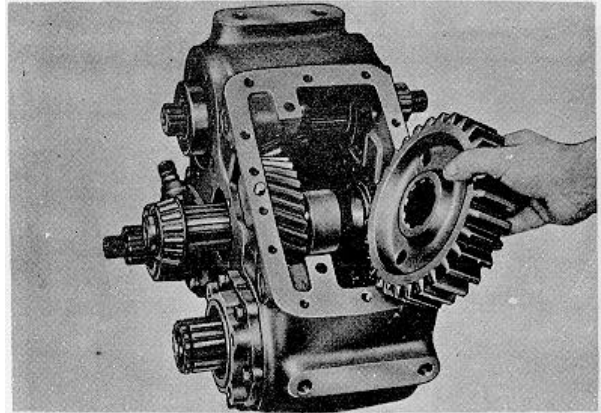

Fig. 13.
19. Lift out the Lo gear, gear spacer and front bearing (Fig. 13).